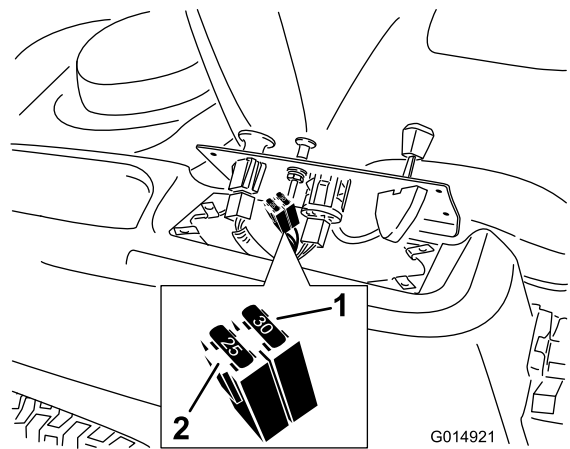

Figure 45
2. Lift the control pane up to access the main wiring harness and fuse block (Figure 45).
3. To replace a fuse, pull out on the fuse to remove it (Figure 45).